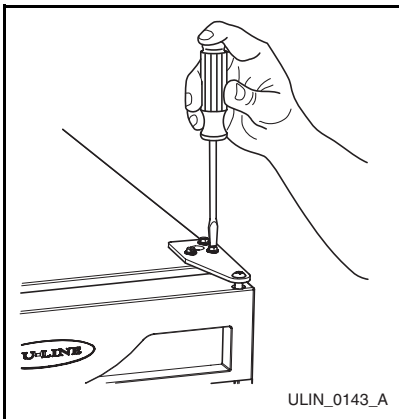

Figure 21
NOTE: Model 29R shown (**Figure 21**)
1. Loosen (do not remove) top (**Figure 21**) and bottom hinge screws.